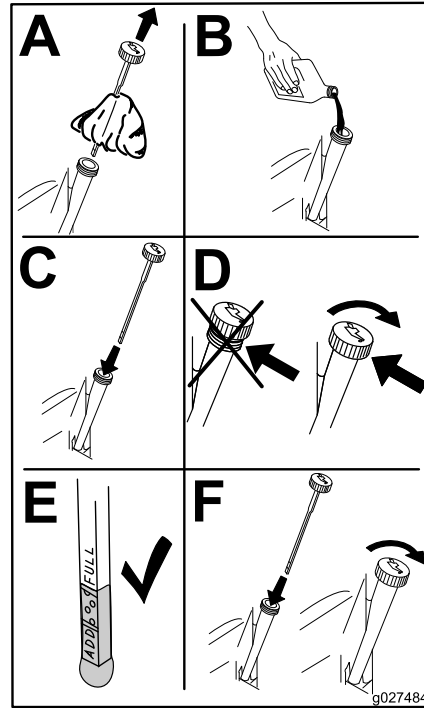

Figure 69
6. Slowly pour approximately 80% of the specified oil into the filler tube and slowly add the additional oil to bring it to the Full mark (Figure 69).